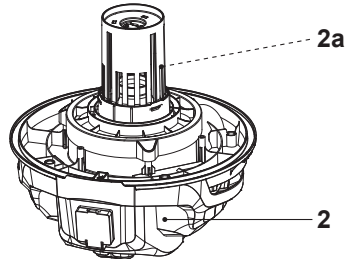

Fig. 22
- > The product is designed with a safety valve (2a) to prevent water from entering into the motor unit (2) during wet vacuuming operations (Fig. 22). Before using, check that the safety valve moves freely within the cage.